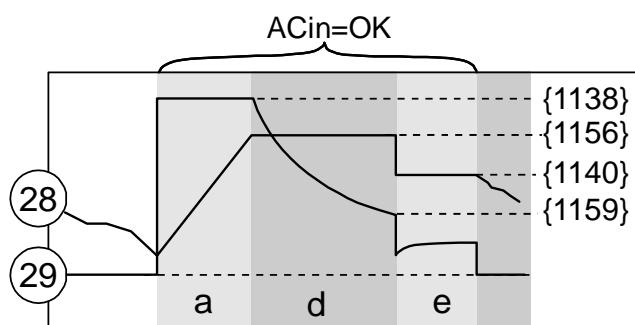

Fig. 3b: Simplified charge cycle, without input current limitation
The Xtender is intended to be supplied by alternative voltage sources such as the public grid or a generator. Check that the rated voltage of the source corresponds to the rated voltage (34) of the Xtender specified on the type plate (fig. 3b).
The source must be connected to the input terminals marked "AC INPUT" (13) with sufficient wire section, depending on the power output of the source, and protected by a protection device of the appropriate calibre. This will be at the maximum equal to the current I_{AC} in max (35) specified on the type plate (fig. 3b). The terminals are marked in the following way: